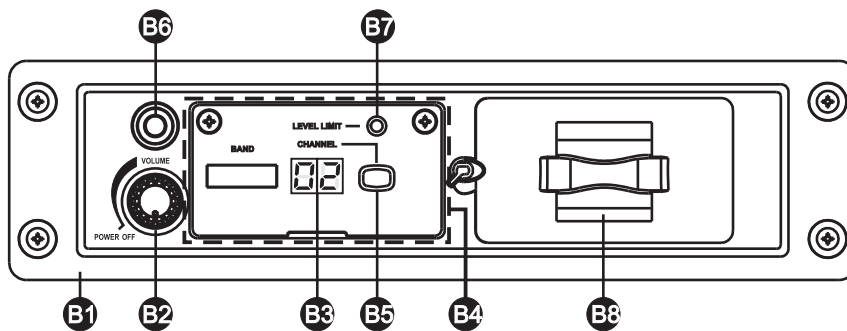

Fig. 14
(A) MTM-92 Wireless Interlinking Transmitter Part Names: Fig. 14